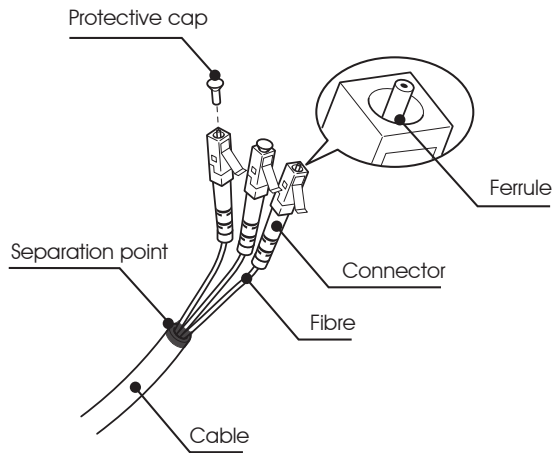

Fig.7
- The individual optical cables are delicate: always handle the main cable without touching the individual optical cables (Fig.7). Never pull the individual optical cables or connectors; if necessary, you may pull the main three-core cable.